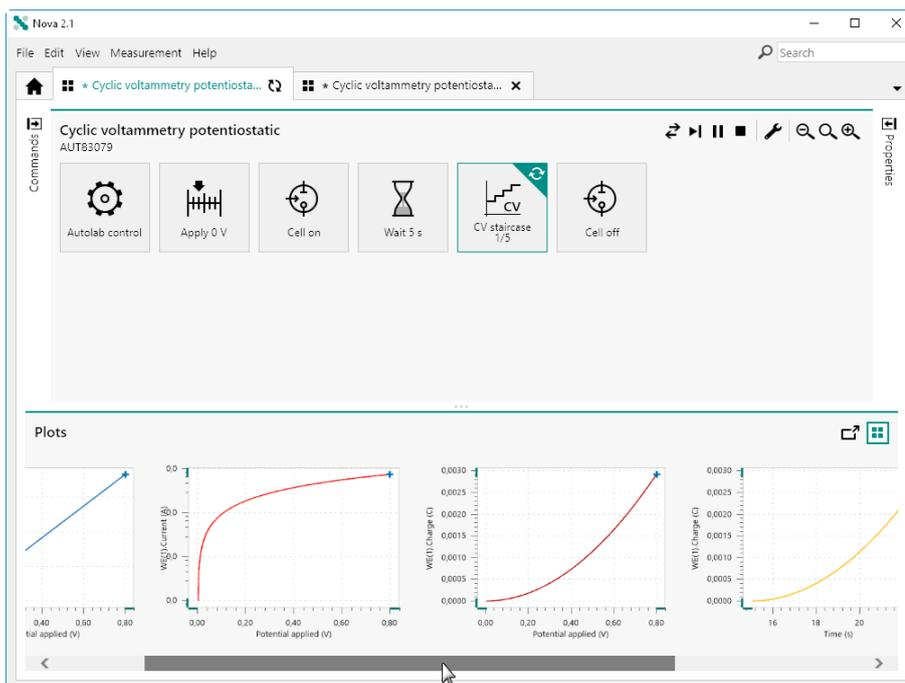

Figure 836 Plots shown in sequence arrangement
- **Sequence arrangement:** all the plots defined in the procedure are shown in sequence in the **Plots** frame scaled to the largest available space. If more plots are defined than can be arranged in the Plots frame, a scrollbar will be added to the frame. Using this scrollbar, it is possible to change the plots shown in the frame (see Figure 836, page 686).